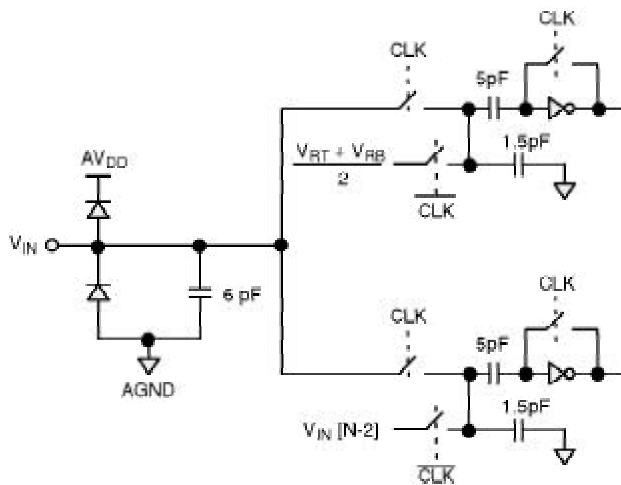

Figure 5. Equivalent Input Circuit
- See V_{IN} input equivalent circuit (Figure 5). Switched capacitor analog input requires driver with low output resistance.
The reference can be biased internally by shorting V_{RT} to V_{RTS} and V_{RB} to V_{RBS} . This will generate $0.4V$ at V_{RB} and $1.72V$ at V_{RT} (see Figure 5).